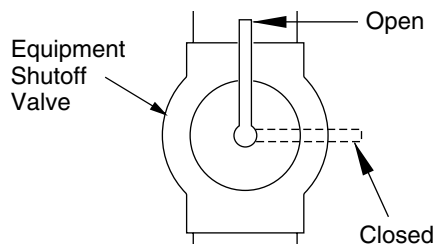

Figure 42 - Equipment Shutoff Valve
1. Close equipment shutoff valve (see Figure 42).
1. Open equipment shutoff valve (see Figure 42, page 21).